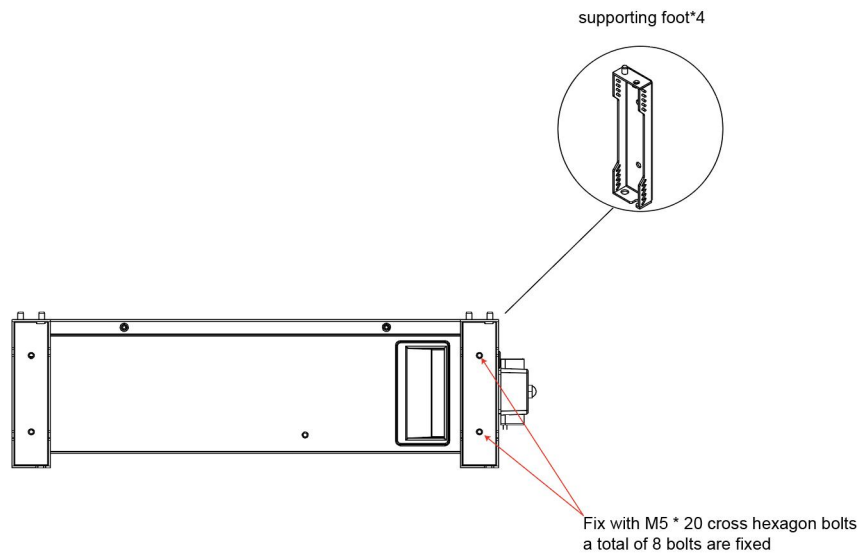

Figure 3-1
- 1) Step 1: Install the four support legs on both sides of the battery pack, as shown in Figure 3-1